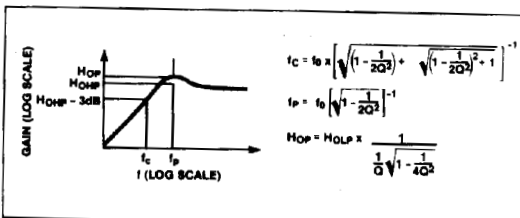

Figure 3. Highpass Filter Terminology
- H_{OHP} : The gain in V/V of the highpass output at $f = f_{CLK}/2$. See Figure 3.